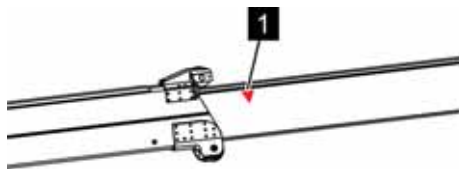

Fig. 110: Red arrows
- Always only retract the telescopic arm until the red arrows (Fig. 110/1) on the bearings are no longer visible.